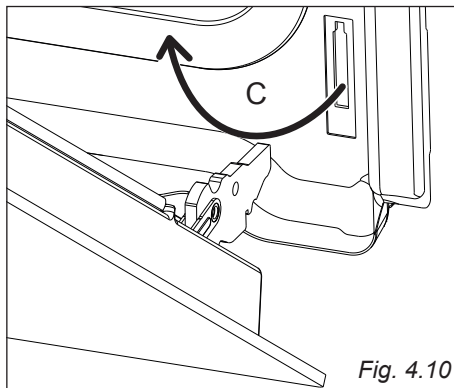

Fig. 4.10
- Withdraw the hinge hooks from their location following arrow "C" (fig. 4.10).